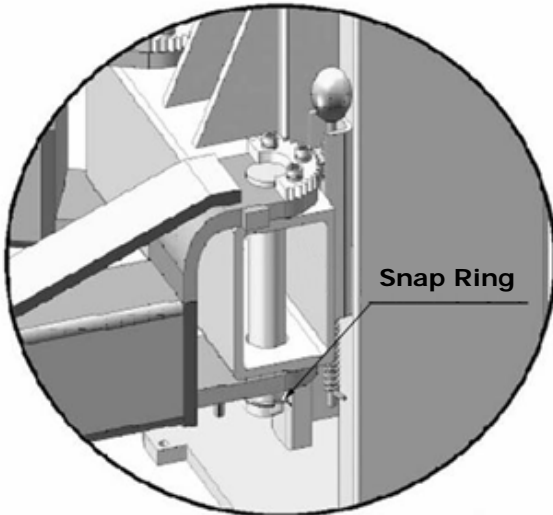

Fig. 22
1. Install the lifting arms (See Fig. 22)